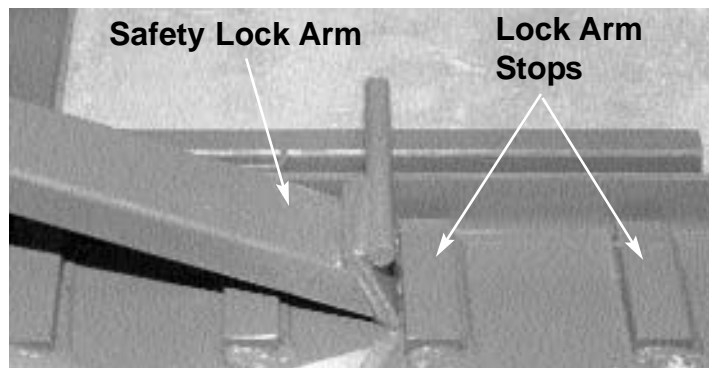

Figure 32
7. Partially depress 'down' button to engage safety lock arms with stops. (See Figure 32.)